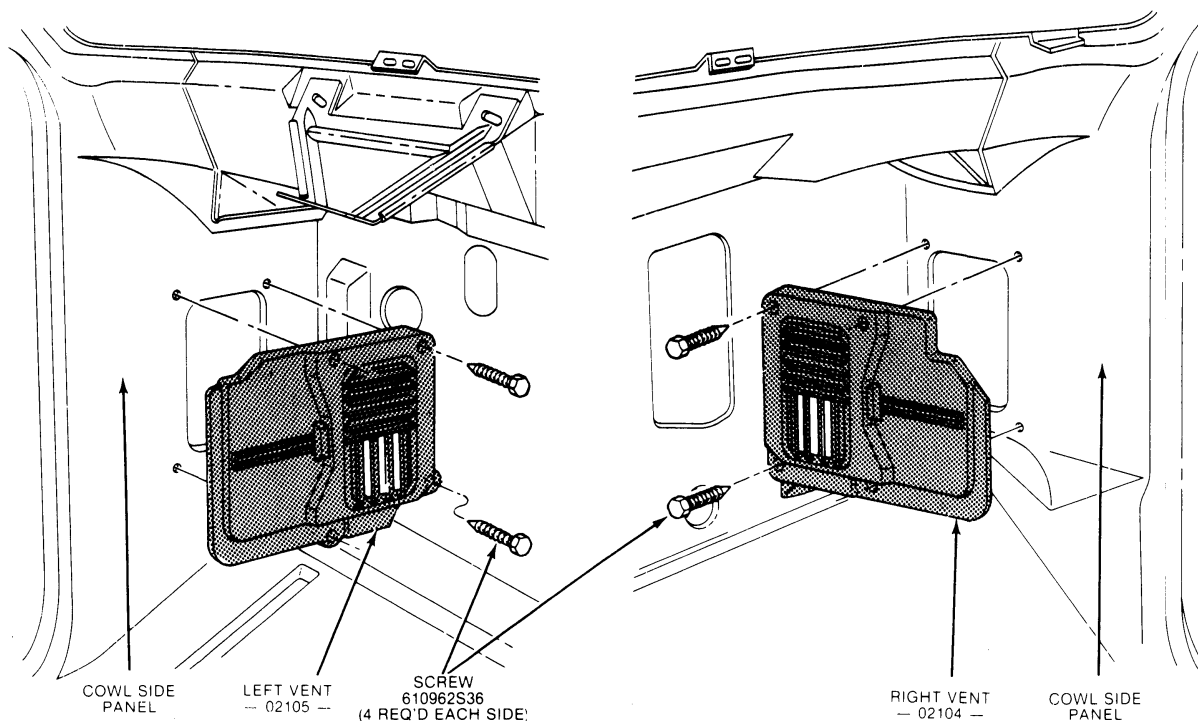

Fig. 5 — Right and Left Outside Air Vent Assemblies
2. Remove four (4) screws attaching the vent assembly to the cowl side. Then, pull the vent assembly from the cowl side (Fig. 5).
3. Remove four (4) vent assembly attaching screws and remove the left vent assembly (Fig. 5).